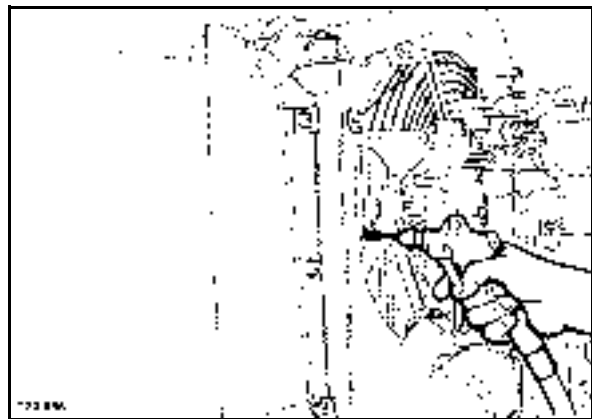

Fig. 106
- Blow the cooler (Fig. 106) out with compressed air from the air discharge side.